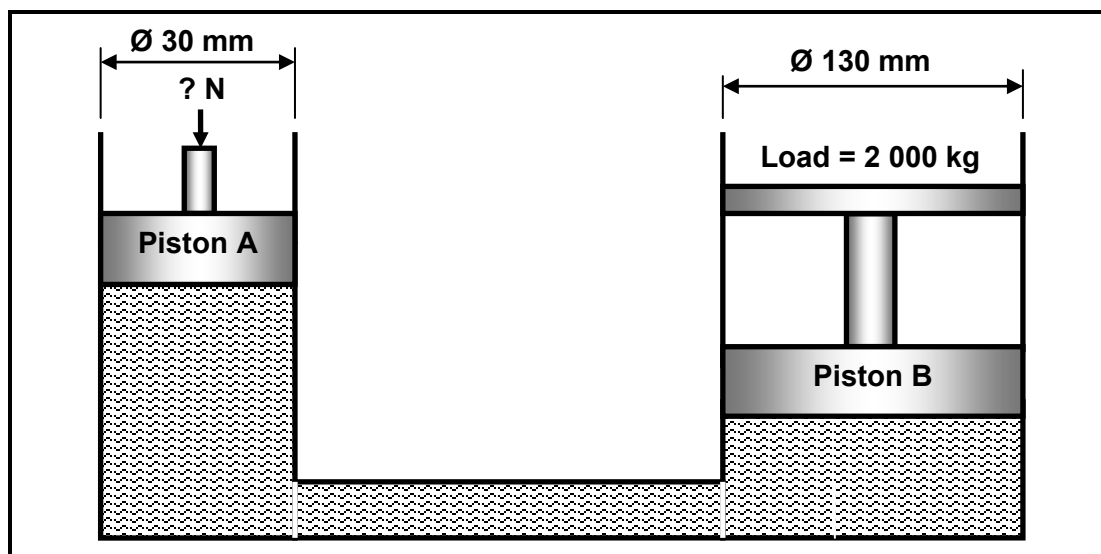

FIGURE 9.3
- 9.3 A hydraulic system is used to lift goods when loading it into trucks. The specifications of the system are given in FIGURE 9.3 below.